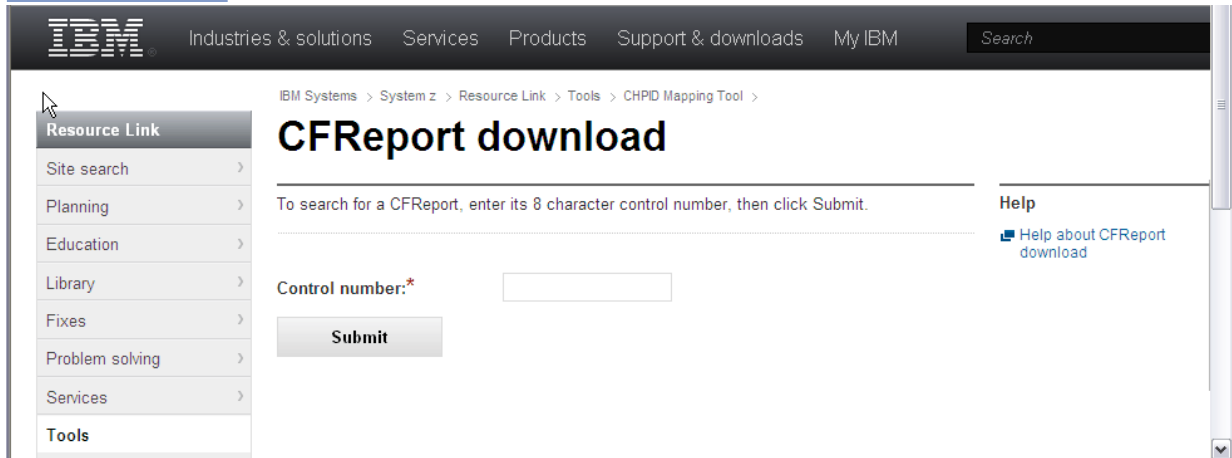

Figure 2. CFReport Download window
4. Click **CFReport (I/O Configuration Data)**. Resource Link displays the **CFReport Download** window. Figure 2 on page 6 displays this window.